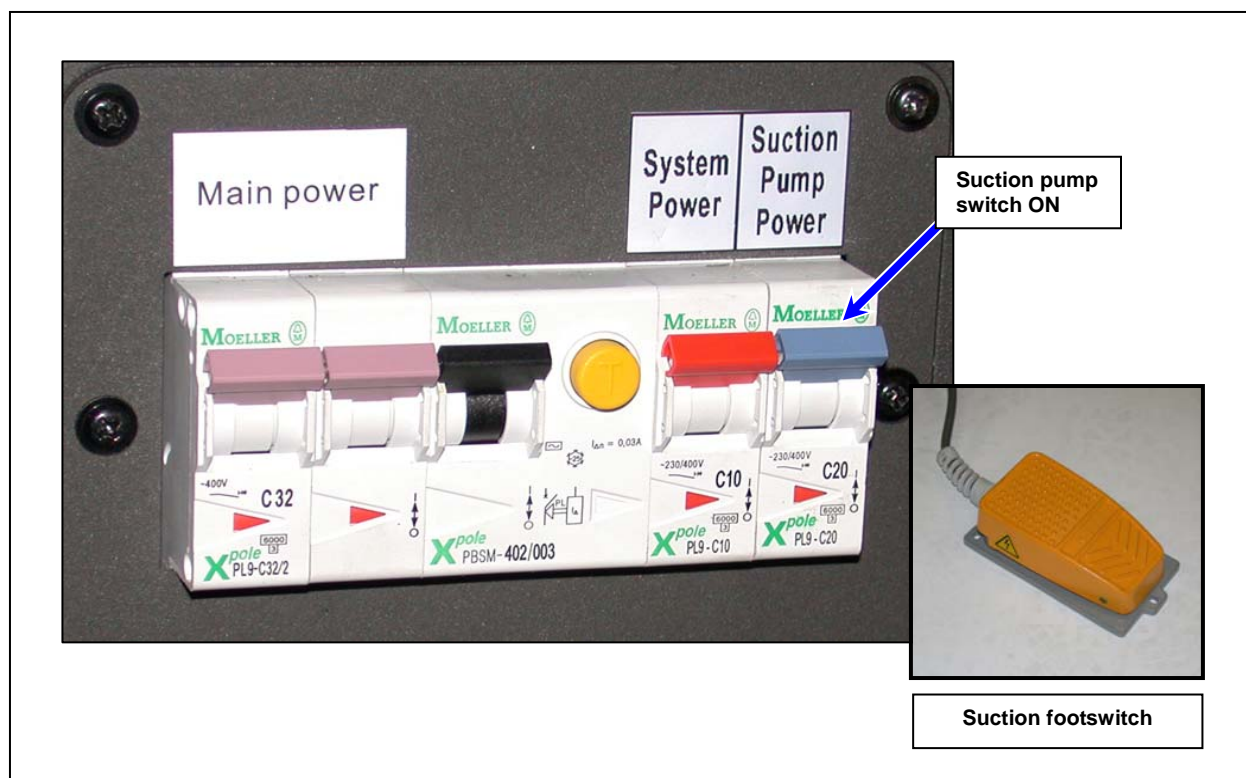

Figure 33 Main Power On – Suction Pump On
- 5 Turn on the suction pump switch located on the Lower-Right side of the printer. The suction pump can be controlled by footswitch after the Suction pump switch is turned on. See **Figure 33**.